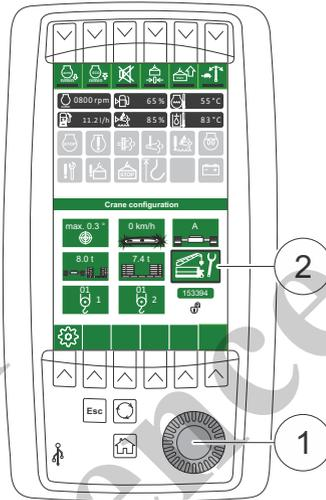

Fig. 183 Selecting setup program
- 6 Roll the SCROLL wheel (1) in Fig. 183 until the setting (2) in Fig. 183 is outlined in black.